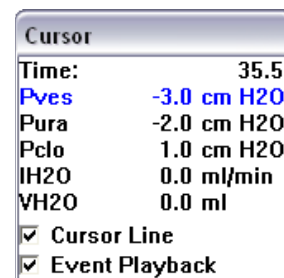

Figure 83: Cursor Window
- Click **Options > Cursor Value Indicator** or Press the F9 key on the keyboard. This will launch the *Cursor* window (Figure 83).